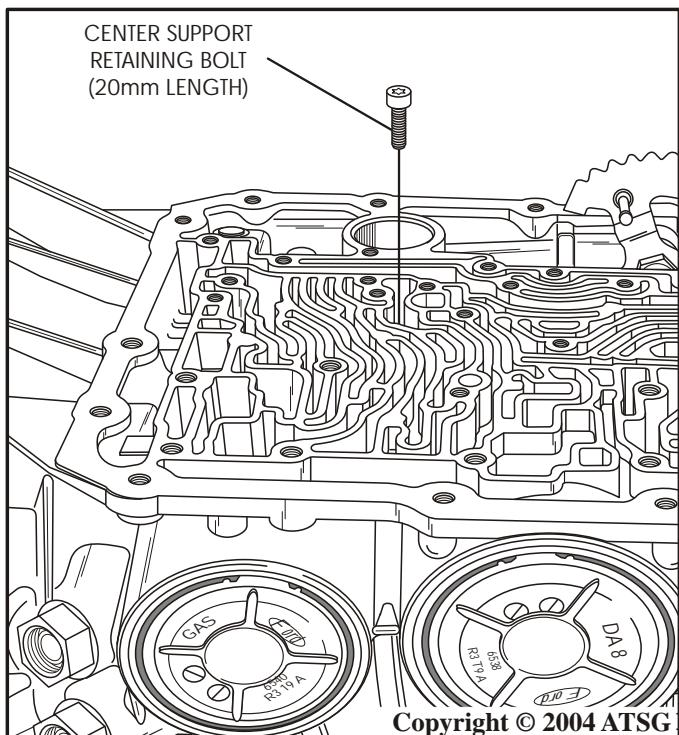

Figure 41
35. Now, remove the center support retaining bolt from the case, as shown in Figure 41, and also remove the locknut, as shown in Figure 42, to prevent it from falling into the assembly.